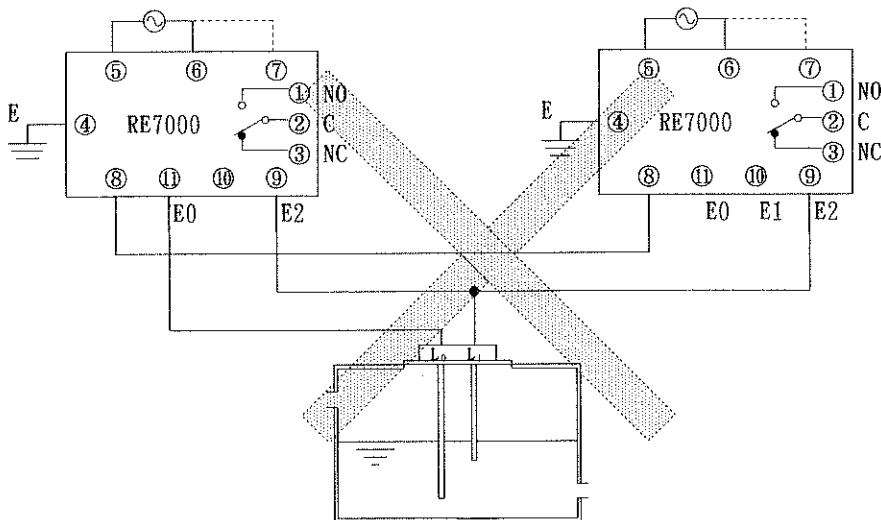

Fig. 19
- (1) When connect the cable to terminals with solderless lugs, the outline diameter of solderless lug must be used 7 mm or less.
- (2) Thread type level sensor has no terminal board. When connect the cable to electrode directly, the solderless lugs must be used size of 1.25-6(Round type).
- (3) Do not connect the plural relay unit to identical electrode. Otherwise, the relay unit may be malfunction. (See Fig. 19)